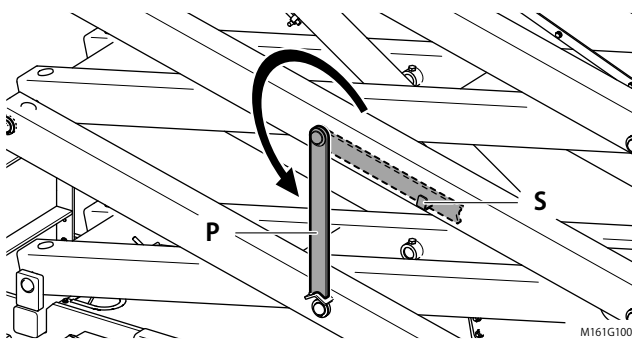

Fig. 3-3
- (1) Lift the safety prop (Fig. 3-3, P) from its stowage position (Fig. 3-3, S) located on the right side of the machine.
- (2) Rotate the safety prop down to a vertical position.
Stow the safety prop in its stowage position (Fig. 3-3, S) when it is not used.